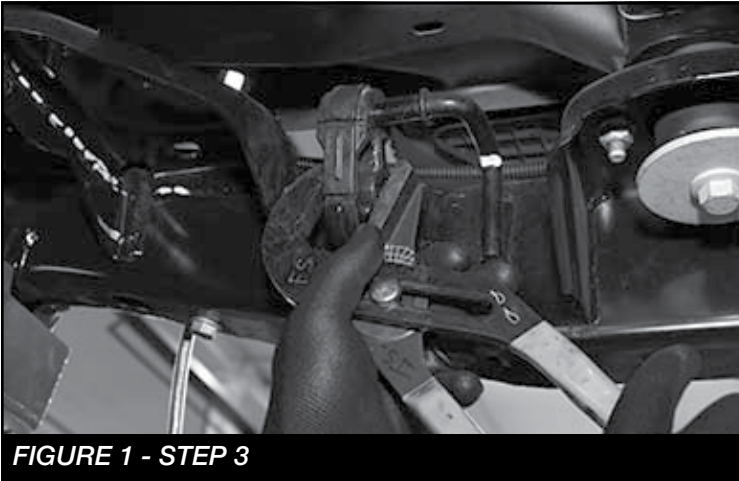

FIGURE 1 - STEP 3
3. Remove the factory cat-back exhaust along with the factory rubber exhaust hangers. **SEE FIGURE 1**